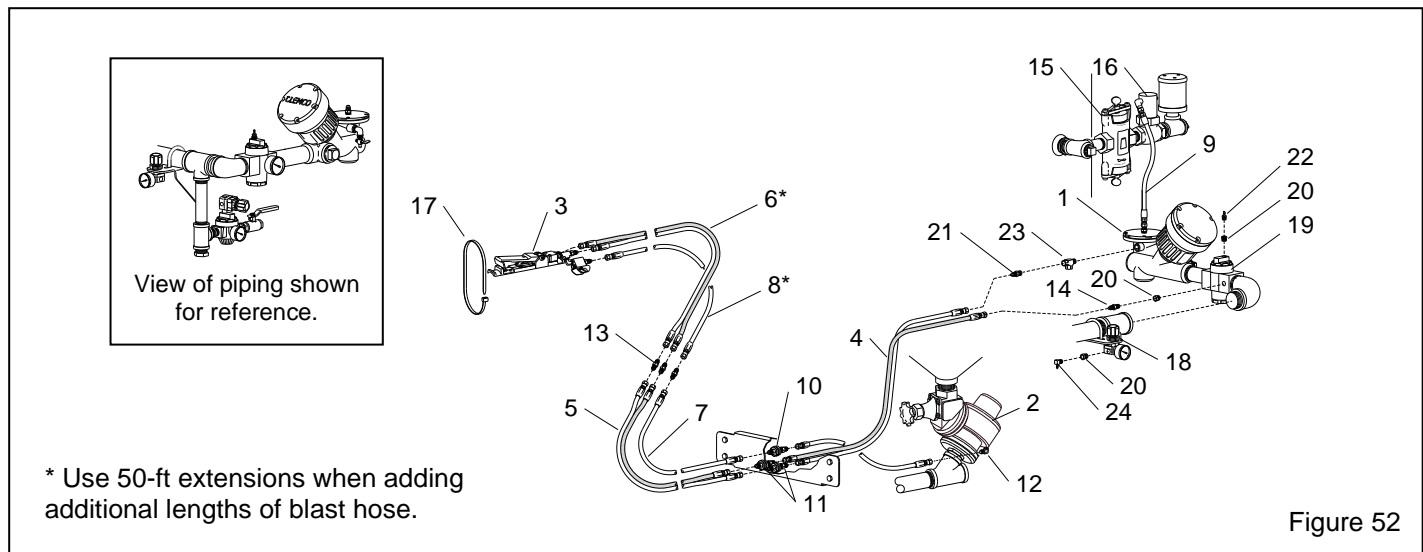

Figure 52
9.2 Remote Control System – Figure 52